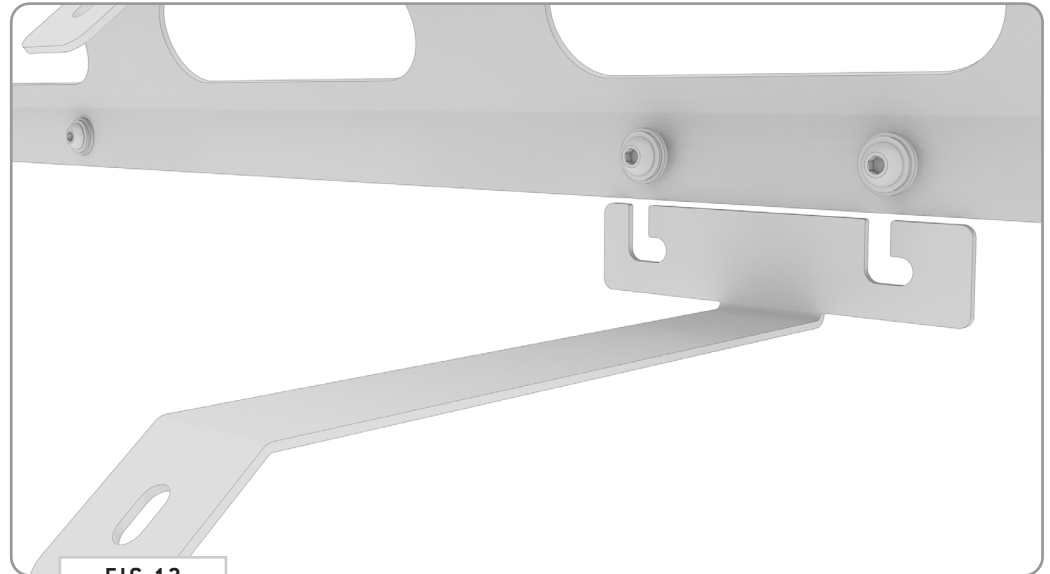

FIG 12
4.3 Center Fairing Bracket: Slide in the **Center Fairing Bracket** into place along the two center-most **1/4-20" Button Head Screws** of the **Crossbar Fairing Bracket** as shown in **FIG 12**.